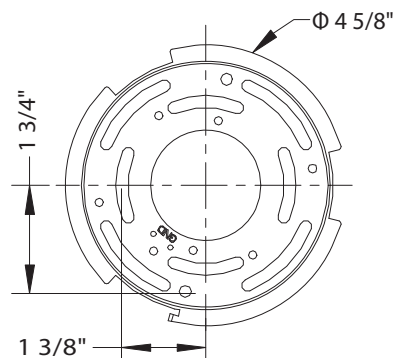

Fig.3 Driver Wires
MOUNTING THE FIXTURE (Fig. 1 / Fig. 3)
- b) Due to limited space within the canopy, shorten the cable as necessary to make the installation easier. Make sure to identify and label all the wiring properly before any trimming/shortening (Fig. 3).
CONNECTING THE WIRES (Fig. 2 / Fig. 3 / Fig. 4)